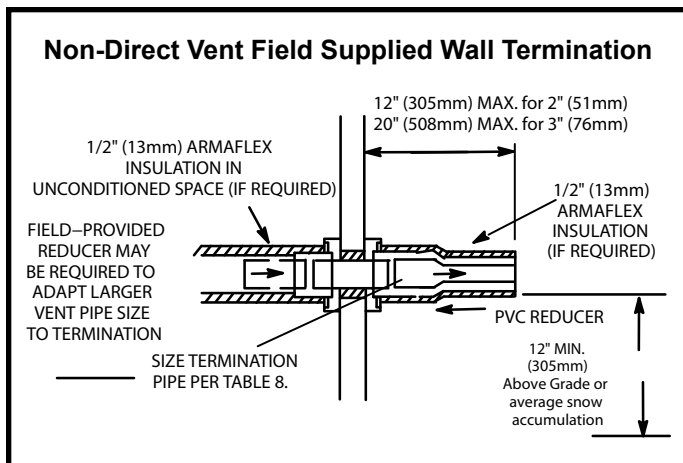

Figure 35
2. On field supplied terminations for side wall exit, exhaust piping may extend a maximum of 12 inches (305 mm) for 2" PVC and 20" (508 mm) for 3" (76 mm) PVC beyond the outside wall. See Figure 35.